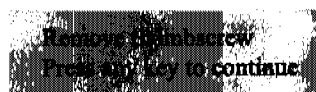

Figure 5.6. Remove Thumbscrew message
4. Select **Clean Syringe** and press [Enter]. The gripper moves to the front and the following message displays (Figure 5.6).